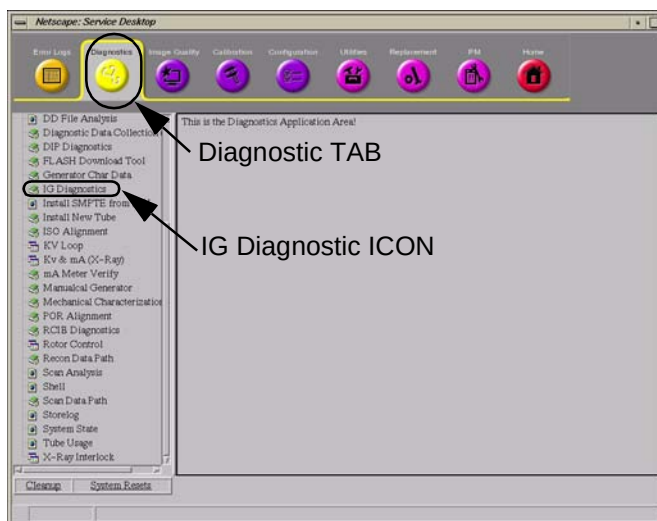

Figure 20 Service Browser - Diagnostic TAB
- 2.) With the service browser displayed, select the **Diagnostics** TAB (See Figure 20).
- 1.) Go to the Service Desktop and select the **Diagnostics TAB** (See Figure 20).